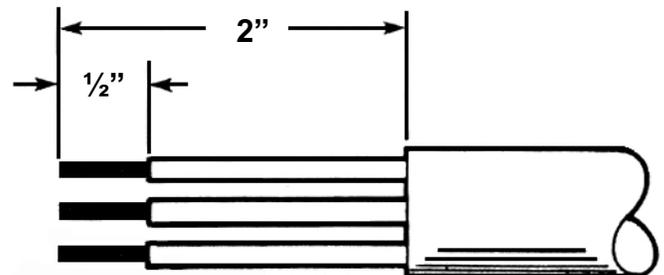

Figure 3
2. Strip cord jacket and wire insulation according to dimensions shown in Figure 3. Be careful not to damage individual conductors or their insulation.